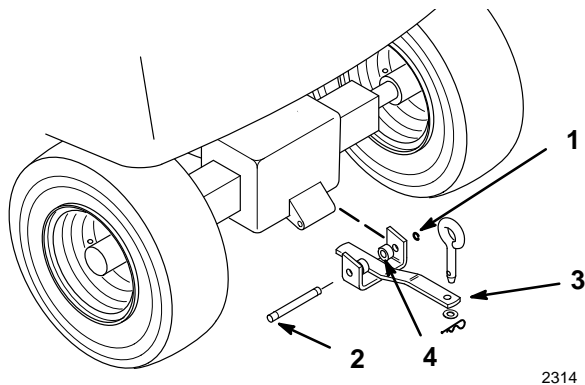

Figure 6
1. Remove the snap ring from the pin and slide from the drawbar and spacers. Remove the hitch from the tractor (Fig. 6).